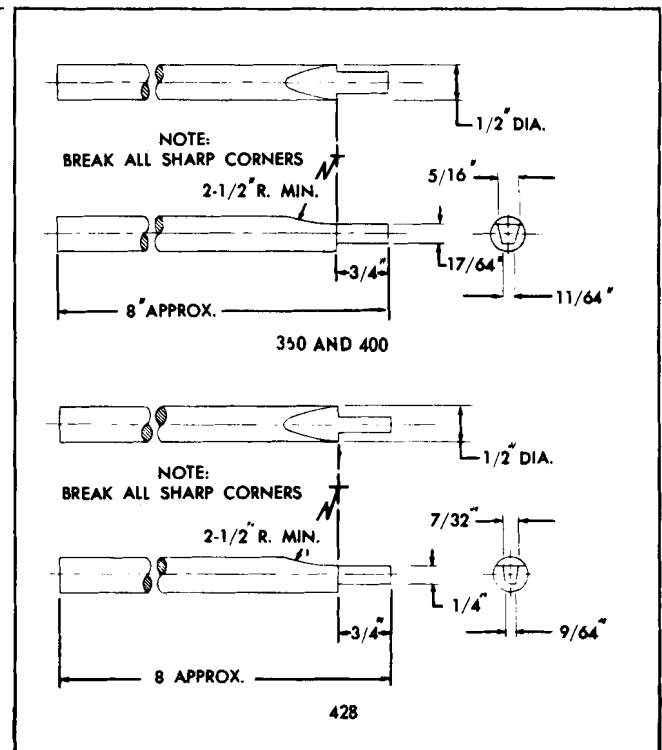

Fig. 6-141 Upper Rear Main Bearing Seal Tool
- a. Use tool shown in Fig. 6-141 made from brass bar stock to pack upper seal as follows: